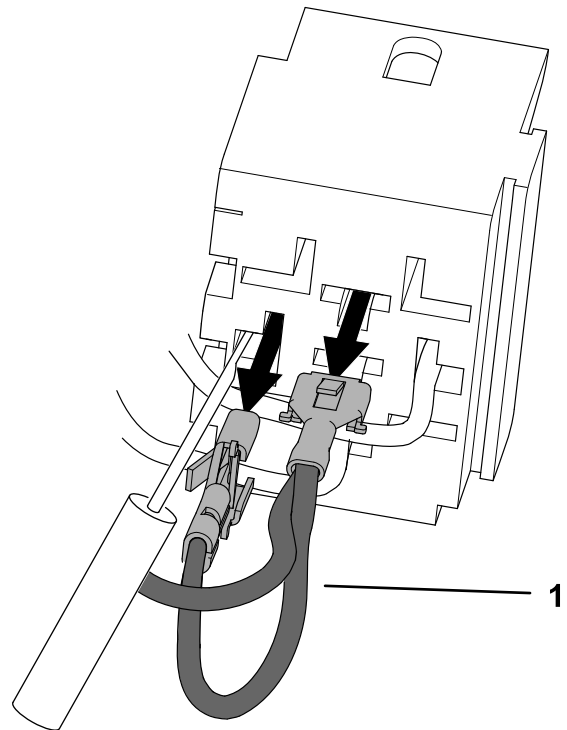

Figure 4
6. Use the terminal removal tool to remove the 2 terminals for the blue wires shown in Figure 4.